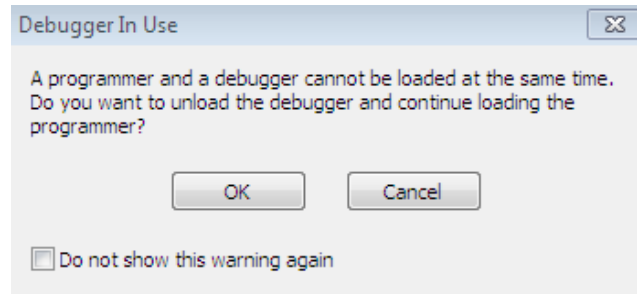

FIGURE 6-2
- 6.2.1** In order to be able to use the PICKit 3 programmer, you will first have to unload the MPLAB SIM debugger, if it is loaded. MPLAB IDE only allows you to load the programmer or debugger, but not both at the same time. If you try to load both at the same time, you will get the following error message, Figure 6-2.